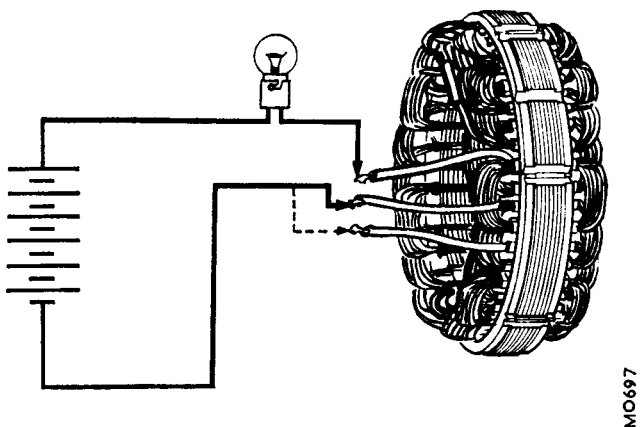

Fig. Nb.17
- 32. Connect a 12-volt battery and a 36-watt test lamp to two of the stator connections. Repeat the test, replacing one of the two stator connections with the third. If the test lamp fails to light in either of the tests, the stator must be renewed (see Fig. Nb.17).